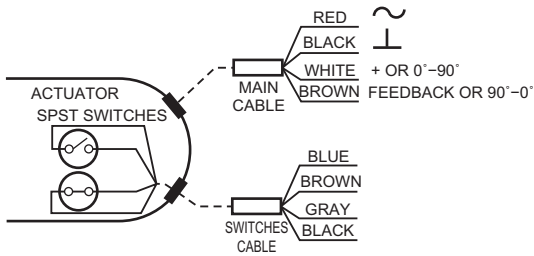

Fig. 10. Cable installation details.
Some models include Auxiliary switches. For wiring details see Fig. 10.
2. Connect power to power and common wire. (See Fig. 10 and Table 3.)
4. Apply control signal for actuator full open or full closed position. (See Fig. 10 and Table 3.)
- a. (0)2-10 VDC: apply 10 VDC signal to control wire (WHITE).
- b. 10-(0)2 VDC: apply (0)2 VDC signal to control wire (WHITE).
- c. (0)4-20 mA: apply 20 mA signal to control wire (WHITE).
- d. 20-(0)4mA: apply (0)4 mA signal to control wire (WHITE).
6. Apply control signal for actuator 0% position. (See Fig. 10 and Table 3.)
- a. (0)2-10 VDC: apply (0)2 VDC signal to control wire (WHITE).
- c. (0)4-20 mA: apply (0)4 mA signal to control wire (WHITE).
2. Check damper position and make sure that 24 VDC/VAC is present at the appropriate connections. (See Fig. 10.)